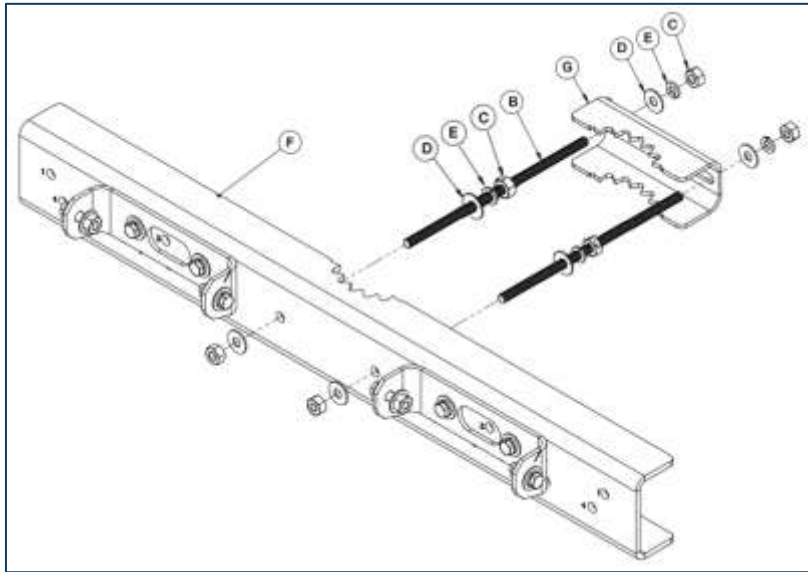

Figure 10: Connecting the bracket and the back grip
1. Connect dual mount bracket F and back grip G, using threaded rods B and the following 3/8" hardware: A, D, and E. See Figure 10.